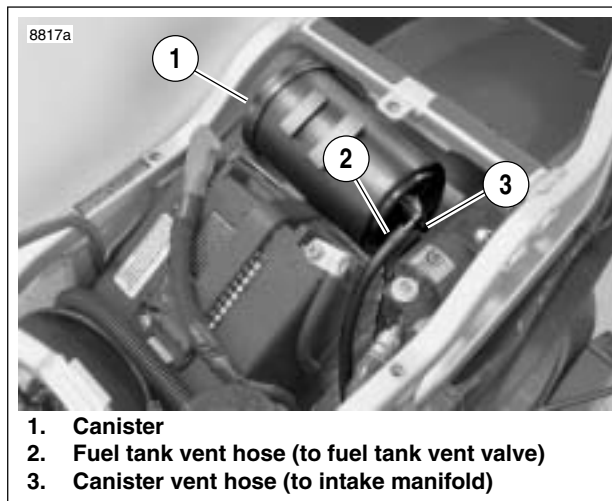

Figure 4-124. Carbon Canister Installation.
2. See Figure 4-124. The canister assembly mounts behind the battery in the tail section.
3. Label and disconnect the fuel tank vent hose (2) and canister vent hose (3) from the canister.
2. See Figure 4-124. Attach fuel tank vent hose (2) to canister if disconnected.
4. See Figure 4-124. Connect two hoses to the canister. Make sure to push hoses all the way on to carbon canister fittings.